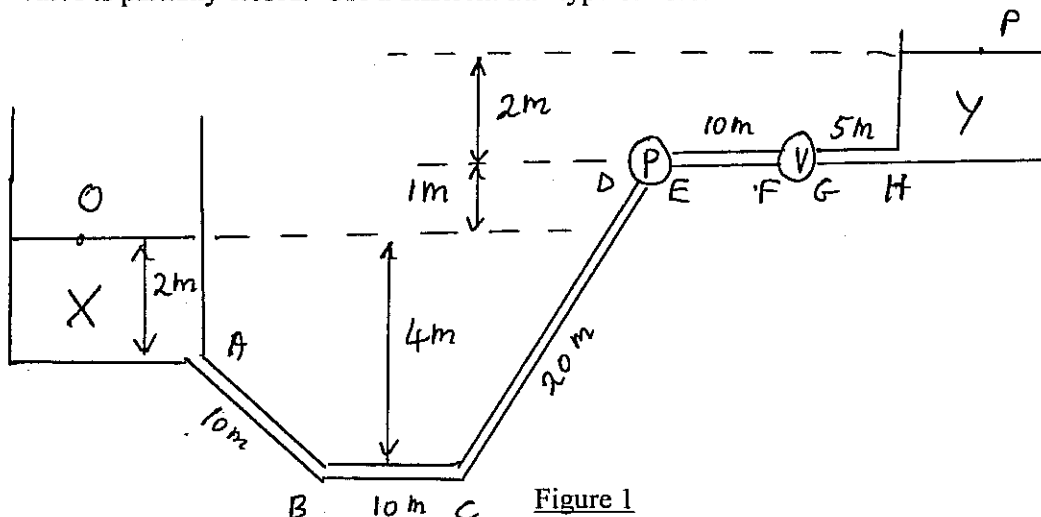

Figure 1
1) Water is pumped from Tank X to Tank Y using a centrifugal pump, P, and a pipeline ABCDEFGH, as shown in Figure 1. A valve, V, is placed between F and G, as shown in the figure. All the pipes have a diameter of 2 cm and a friction factor of 0.01. The lengths of the pipes and the differences in elevation are shown in the figure. The valve is fully open and has a loss coefficient of 0.1 in that position. The pump head is 5 m.